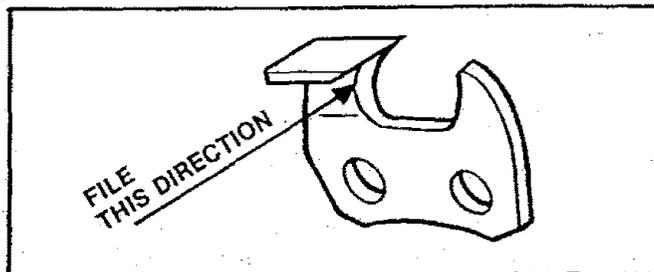

Figure 41
- c.) File from inside toward outside of cutter, straight across in one direction only. Use 2 or 3 strokes per cutting edge. Figure 41.